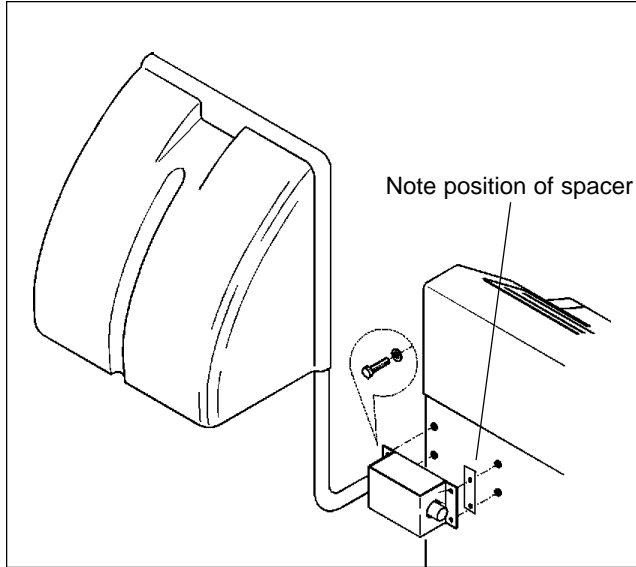

Fig.22
**C.** If you have purchased the optional wheel guard, install it now. (Fig.22).